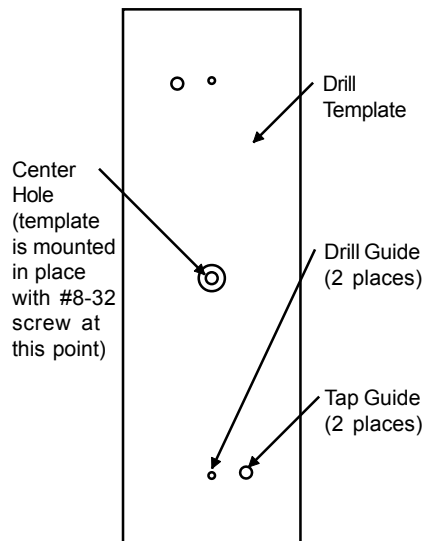

Figure 6-9. Drill and Tap Template
2. See Figure 6-9. Position the drill template so the center hole lines up with the template mounting hole.